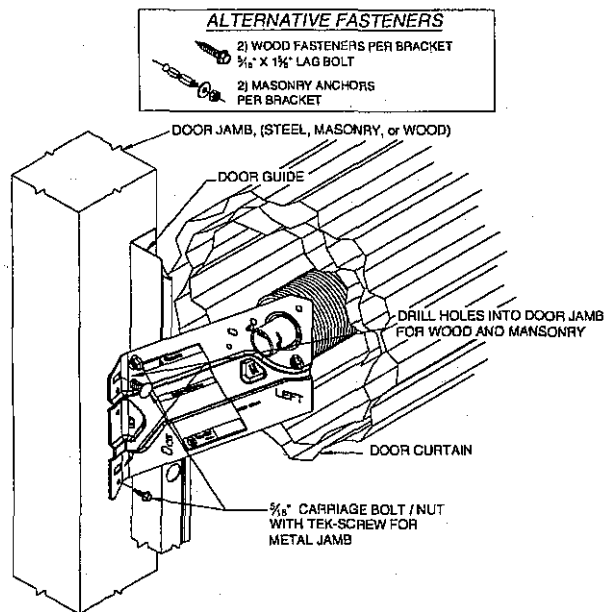

Figure 6.
5.2 Center the door in the opening with the door brackets perpendicular to the mounting surface. For steel jambs, drill a 3/8" diameter hole through the top slot in the door bracket, into the door jamb. For masonry or wood, drill through both slots. (Hole sizes for masonry or wood may vary, depending on the type of fastener required. Verify the fastener size before drilling.) See Figure 6.